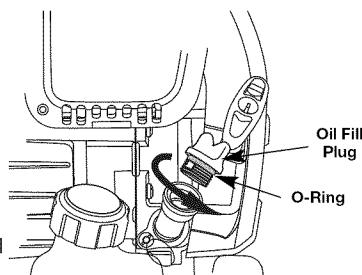

Fig. 19
2. Remove the oil fill plug from the crankcase (Fig. 19).